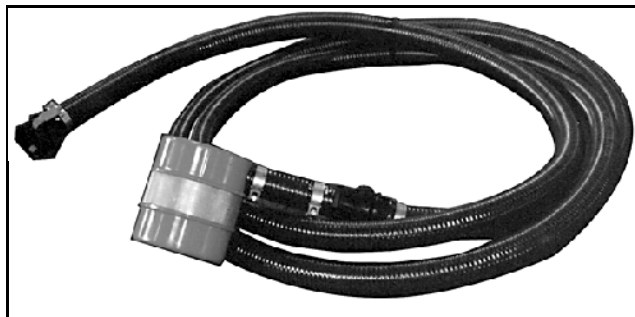

Fig. 10.4
- 1 - Tuyau d'aspiration 2" (8m), code: 914398 (fig. 10.4)